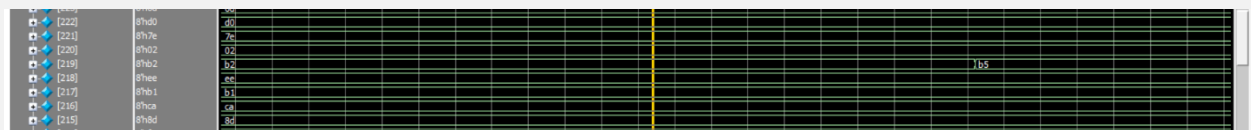

Figure 3: memory assigning check
- 1.3. Figure 3: Memory Assignment